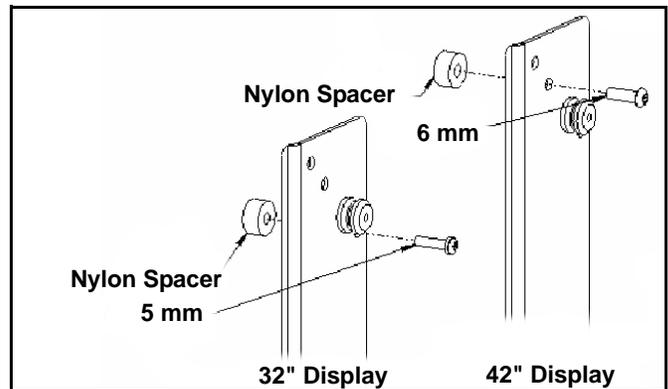

Figure 7: Bracket Hole Location
3. Place nylon spacers over the mounting holes on the back of the screen (see figure 7).